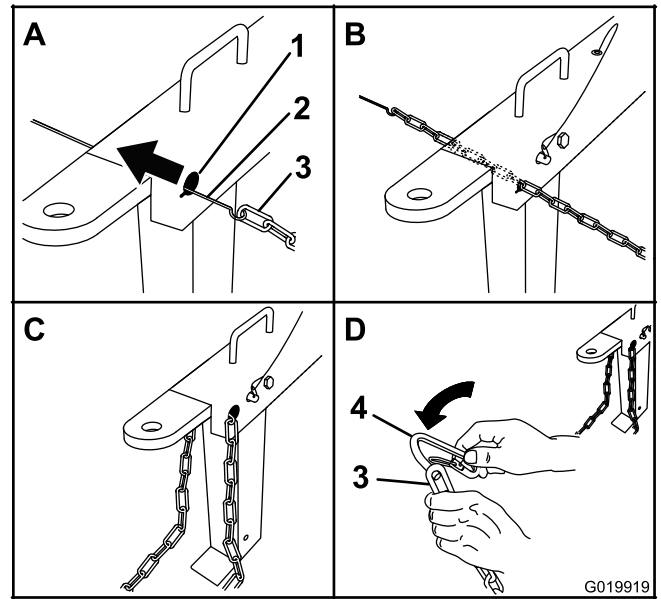

Figure 9
1. Form a hook on the end of a bendable piece of rod or stiff wire (not included) and insert it through both keyholes in the tongue of the machine (Figure 9).
2. Attach the safety chain to the length of rod or wire (Figure 9).
3. Pull the rod, or wire, and the safety chain through both keyholes (Figure 9).